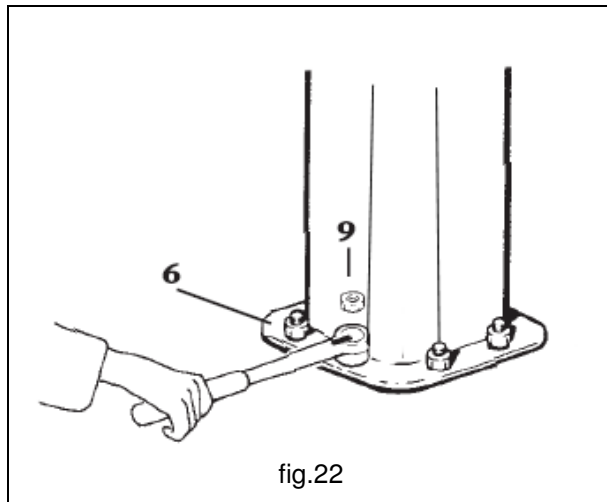

fig.22
7. Checking the nuts afterwards for unscrewing with the relative safety nuts **9** (fig.22).